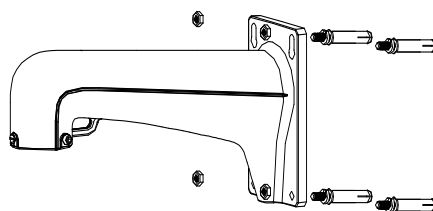

Figure 1-14 Secure the Bracket
- The bracket in Figure 1-14 is the recommended bracket for this series of speed dome, and a pendant adapter is required if any other bracket is selected.